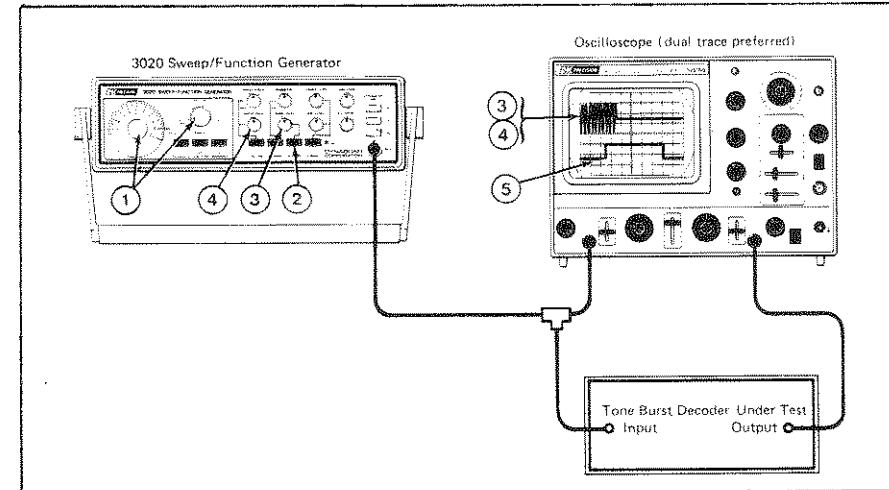

Fig. 20. Tone burst decoder testing.
1. Connect equipment as shown in Fig. 20. Set the RANGE switch and FREQUENCY counter if a high degree of accuracy is required.
The following procedure, along with Fig. 20, describes the typical testing method for tone burst decoders: